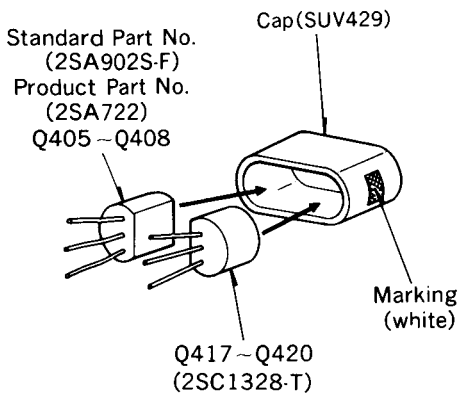

Fig. 10
3. The transistors (Q405-Q417, Q406-Q418, Q407-Q419, Q408-Q420) of the active thermal servo circuit are installed with each pair of transistors completely fitted in a cap so that the temperature change can be accurately detected. Apply bonds on transistors and cover them with the cap (SUV429). (See Fig.10)